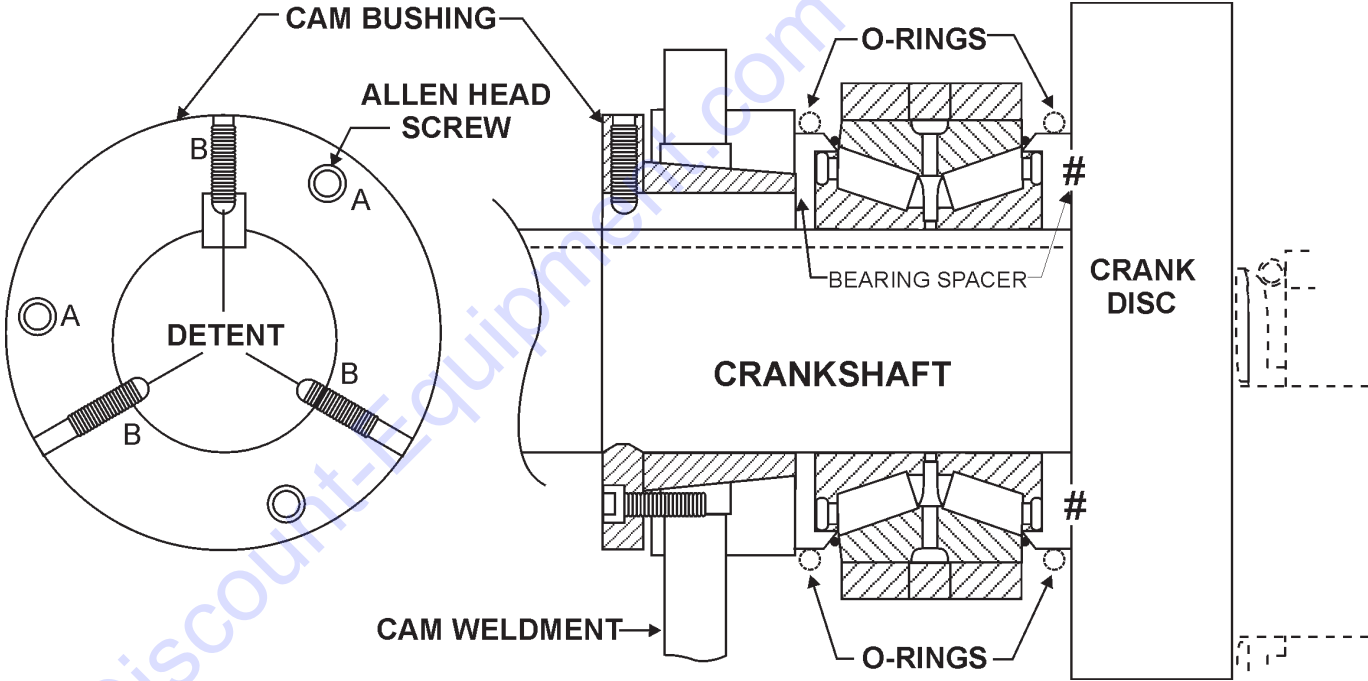

Figure 24. Bearing/Cam Bushing Installation
- 1. Install the bearing components on the crankshaft making full contact with the back side of the crank disc as indicated the symbol #. See Figure 24 below.